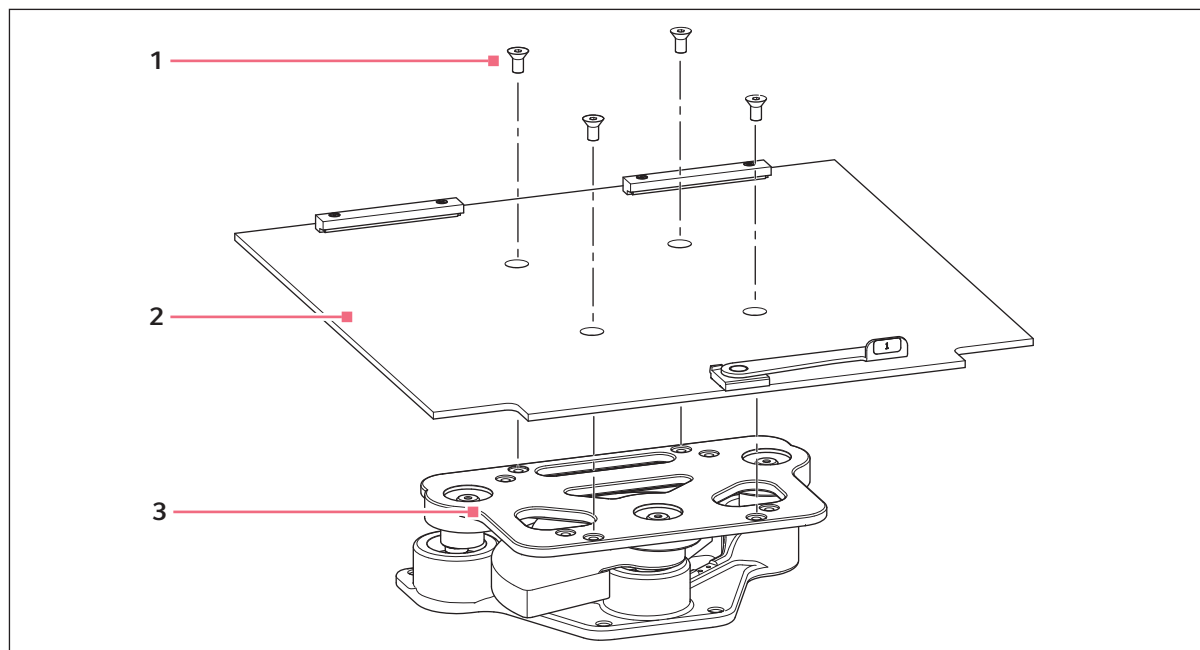

Fig. 8-1: Install Subplatform
Prior to use, a subplatform and platform must be installed on the unit. The shaker is shipped with four Allen head platform screws installed in the bearing housing, (see Fig. 8-1 on p. 41).
2. Place the subplatform onto the bearing housing, taking care to orient it as shown (see Fig. 8-1 on p. 41), with the notches and the lever toward the front of the shaker, lever facing up.